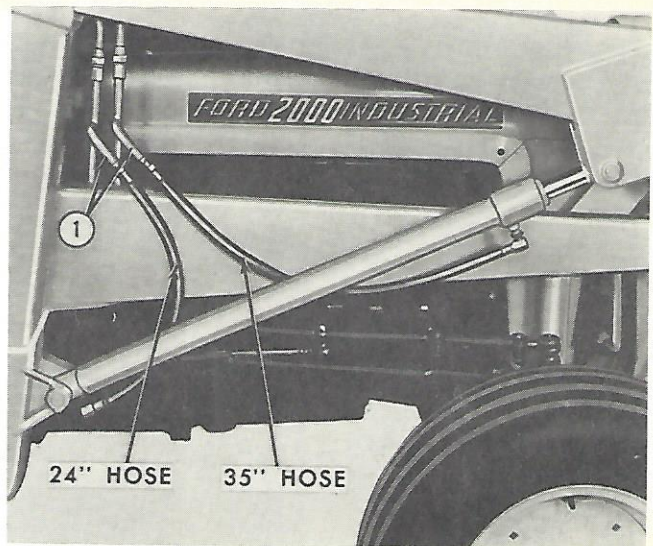
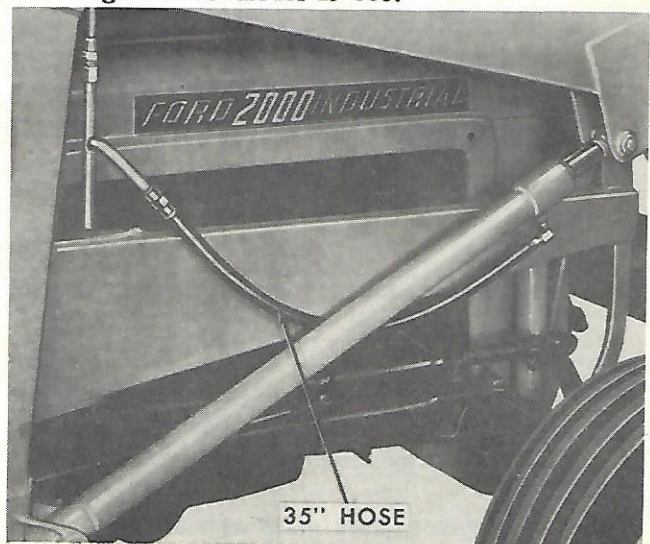

Figure 18
Figure 19
11. Apply thread sealing compound to the threads of the lift cylinder hoses. Install the lift cylinder hoses as shown in Figure 18 for Model 19-335, or Figure 19 for Model 19-336.
IMPORTANT: When installing the lift cylinder hoses, be sure the tubes (1), Figure 18, are positioned to allow the hoses to come straight down along side of the loader frame.